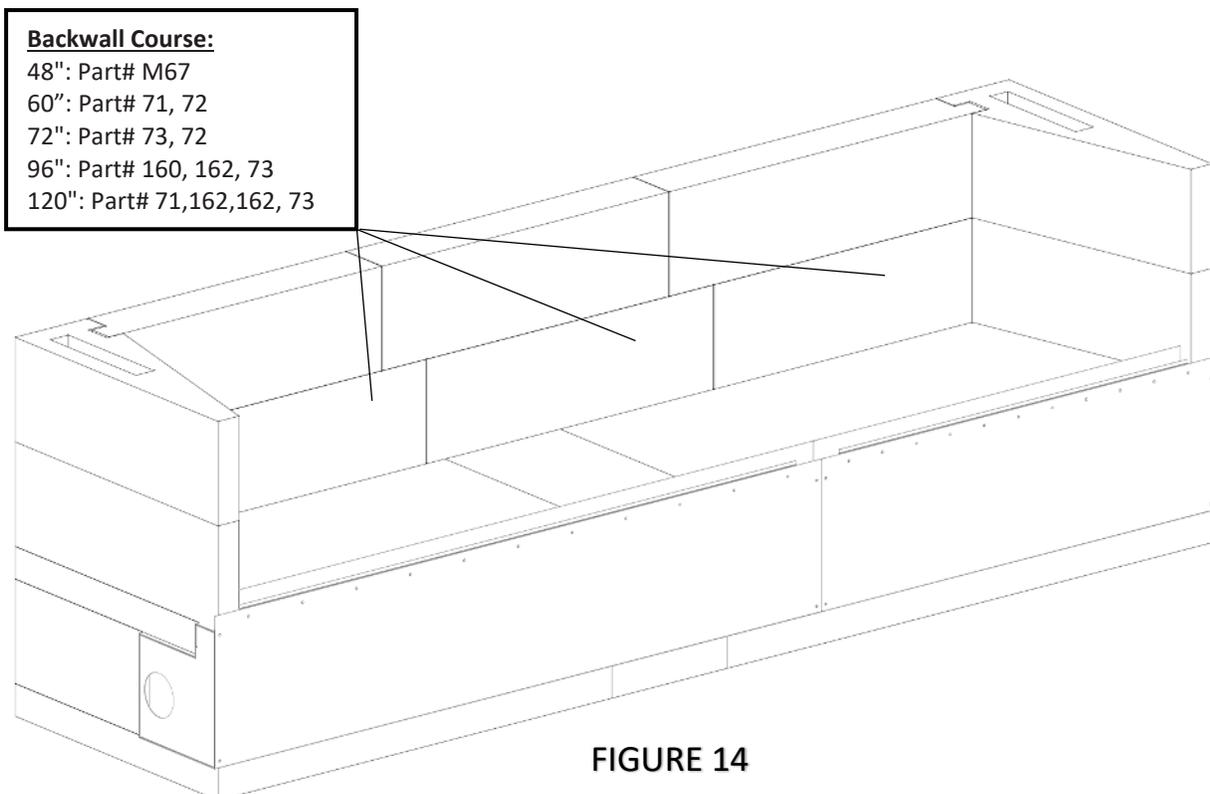

FIGURE 14
- 5) Continue assembly of the consecutive courses of the firebox side and backwalls, making sure to stagger the back wall components so that the vertical joints do not align. Apply Earthcore Adhesive to the top of each layer of side wall components before setting the next course in place **(Figure 14)**. Look for some Earthcore Adhesive to squeeze out along the joints of all contact surfaces as a sign that the joint is thoroughly sealed with the approved Earthcore Adhesive.